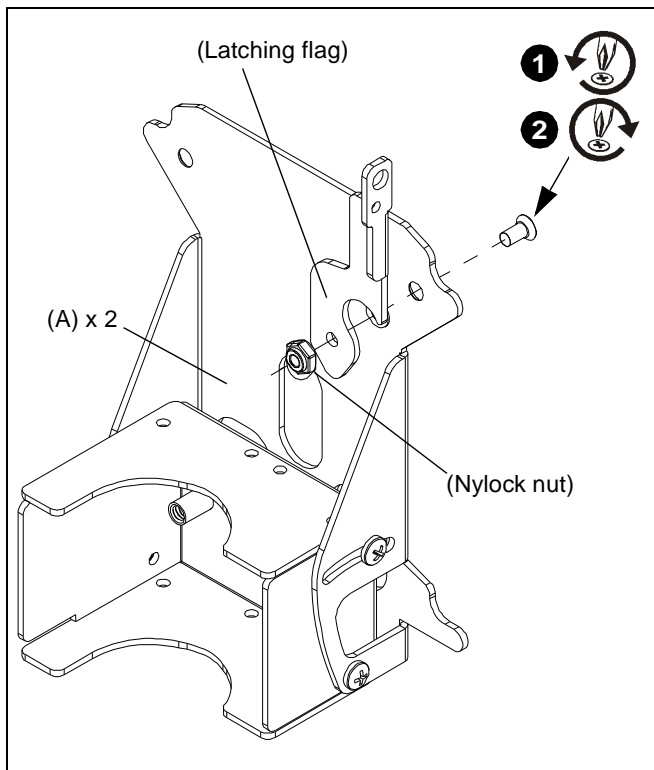

Figure 1
1. Remove Phillips head screw, Nylock nut and latching flag attached to the FDP (A). (See Figure 1)
2. Re-position latching flag and tighten using Phillips head screw and Nylock nut. (See Figure 1)